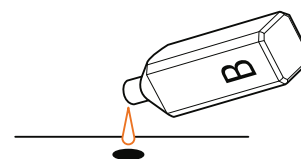

Fig. B11.3
3. Pour the mixed liquids into the hole in the casing joint sleeve (Fig. B11.3).